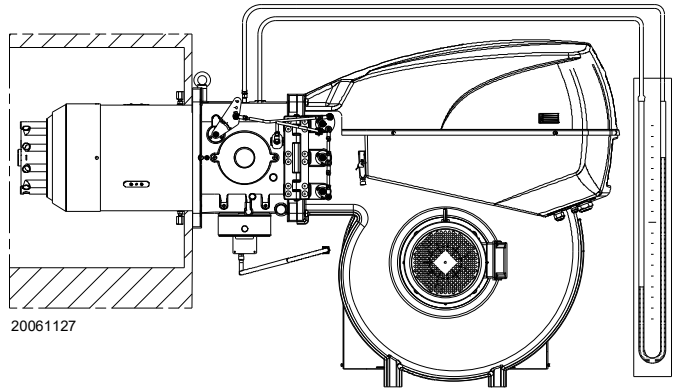

Fig. 24
- Fit a U-type pressure gauge or a differential pressure gauge (Fig. 24), with socket (+) on the gas pressure of the pipe coupling and (-) in the combustion chamber. Used to approximately calculate the MAX burner output.
The arrival of gas at the pipe coupling is indicated by the U-type pressure gauge (Fig. 24).